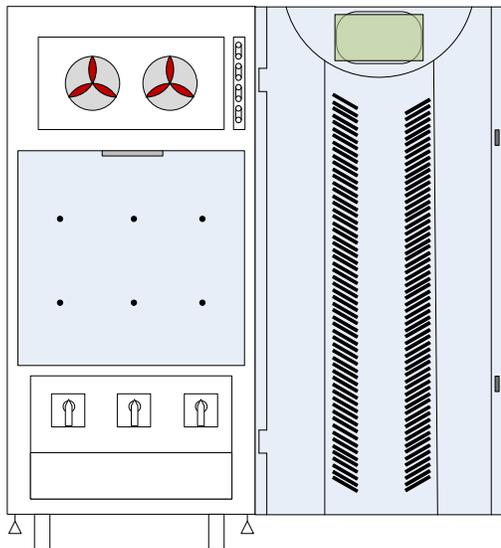

Fig. 5-4
1. Open front door of the UPS by pulling slightly on the left-hand side (Fig. 5-4).